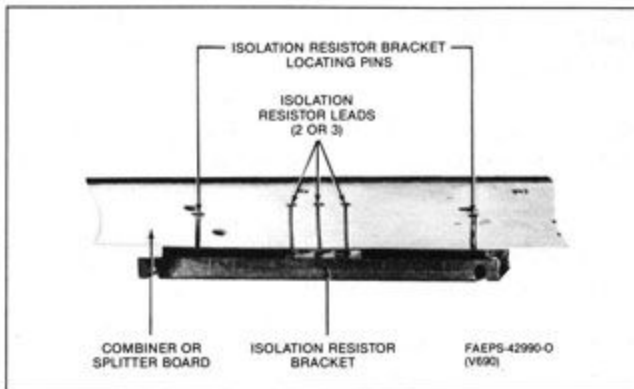

Figure 6. Isolation Resistor-Splitter/Combiner Interface
lation resistor bracket locating pins (see Figure 6). It may be necessary to free the isolation resistor brackets from the heat sink due to thermal compound under the brackets; this should be done by using a long nose pliers to pull up gently on the isolation resistor bracket locating pins until the brackets are free. **NEVER PULL ON THE ISOLATION RESISTOR LEADS.**
appropriate holes in the combiner board. Isolation resistor leads should *not* be soldered to combiner board at this time. Refer to Figure 6.
Step 8. Remove splitter board from heat sink with isolation resistors suspended below the board by the isolation resistor bracket locating pins (see Figure 6). It may be necessary to free the isolation resistor brackets from the heat sink due to thermal compound under the brackets; this should be done by using a long nose pliers to pull up gently on the isolation resistor bracket locating
Step 4. Suspend isolation resistors beneath splitter board by the isolation resistor bracket locating pins, with the isolation resistor leads protruding through the appropriate holes in the splitter board. Isolation resistor leads should *not* be soldered to the splitter board at this time. Refer to Figure 6.
Refer to Figure 6 for reference.